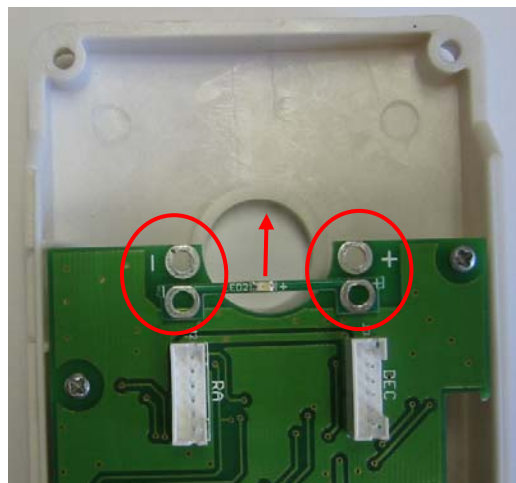

Figure 7. Align LED to the main board
4. Lay the face plate with main control board on a table. Align the illumination LED to the top edge of the board, make sure plus (+) and minus (-) electrodes of the LED are aligned to the + and - signs on the board, as shown in Figure 7.